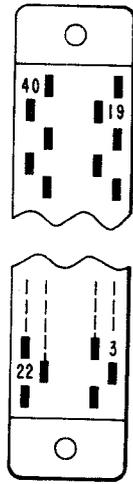

Fig. 5—Pin Location on 908C Connector
4.01 This part contains connector information for the data station consisting of data sets 202T in a 39A1 or 40B1 data mounting. For all connections to the 39A1 data mounting, refer to Table A. Figure 5 shows pins locations on the 908C connector which is used with the 39A1 data mounting.